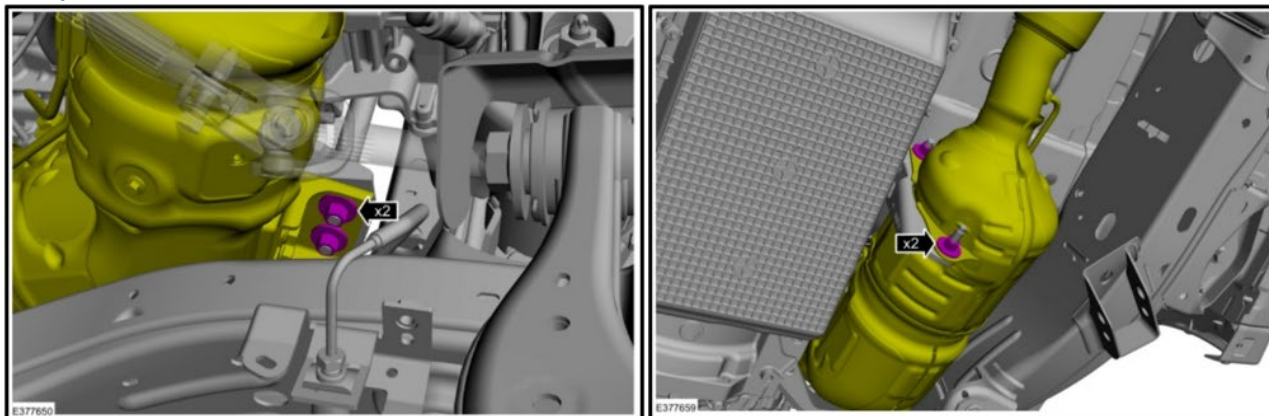

FIGURE 16
16. Torque the DPF bracket nuts. Refer figure 16